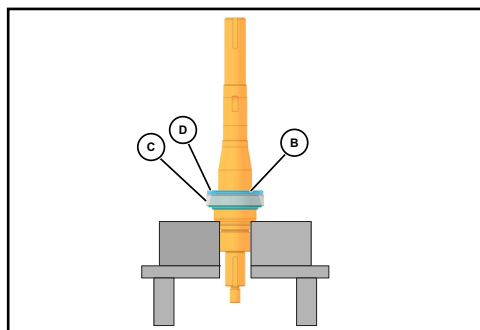

Figure 55 - Inner & Outer Spacer and Lower Cup
4. Place the inner spacer (Figure 55, item B) over the shaft onto the lower cone and roller assembly.